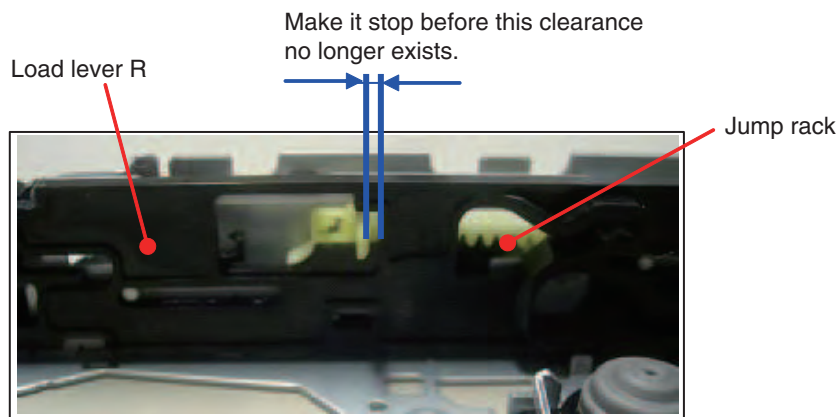

Fig 10
3. When the clamping motion is finished, stop the motion before the convex shape of the jump rack touches the load lever R. (Fig 10)